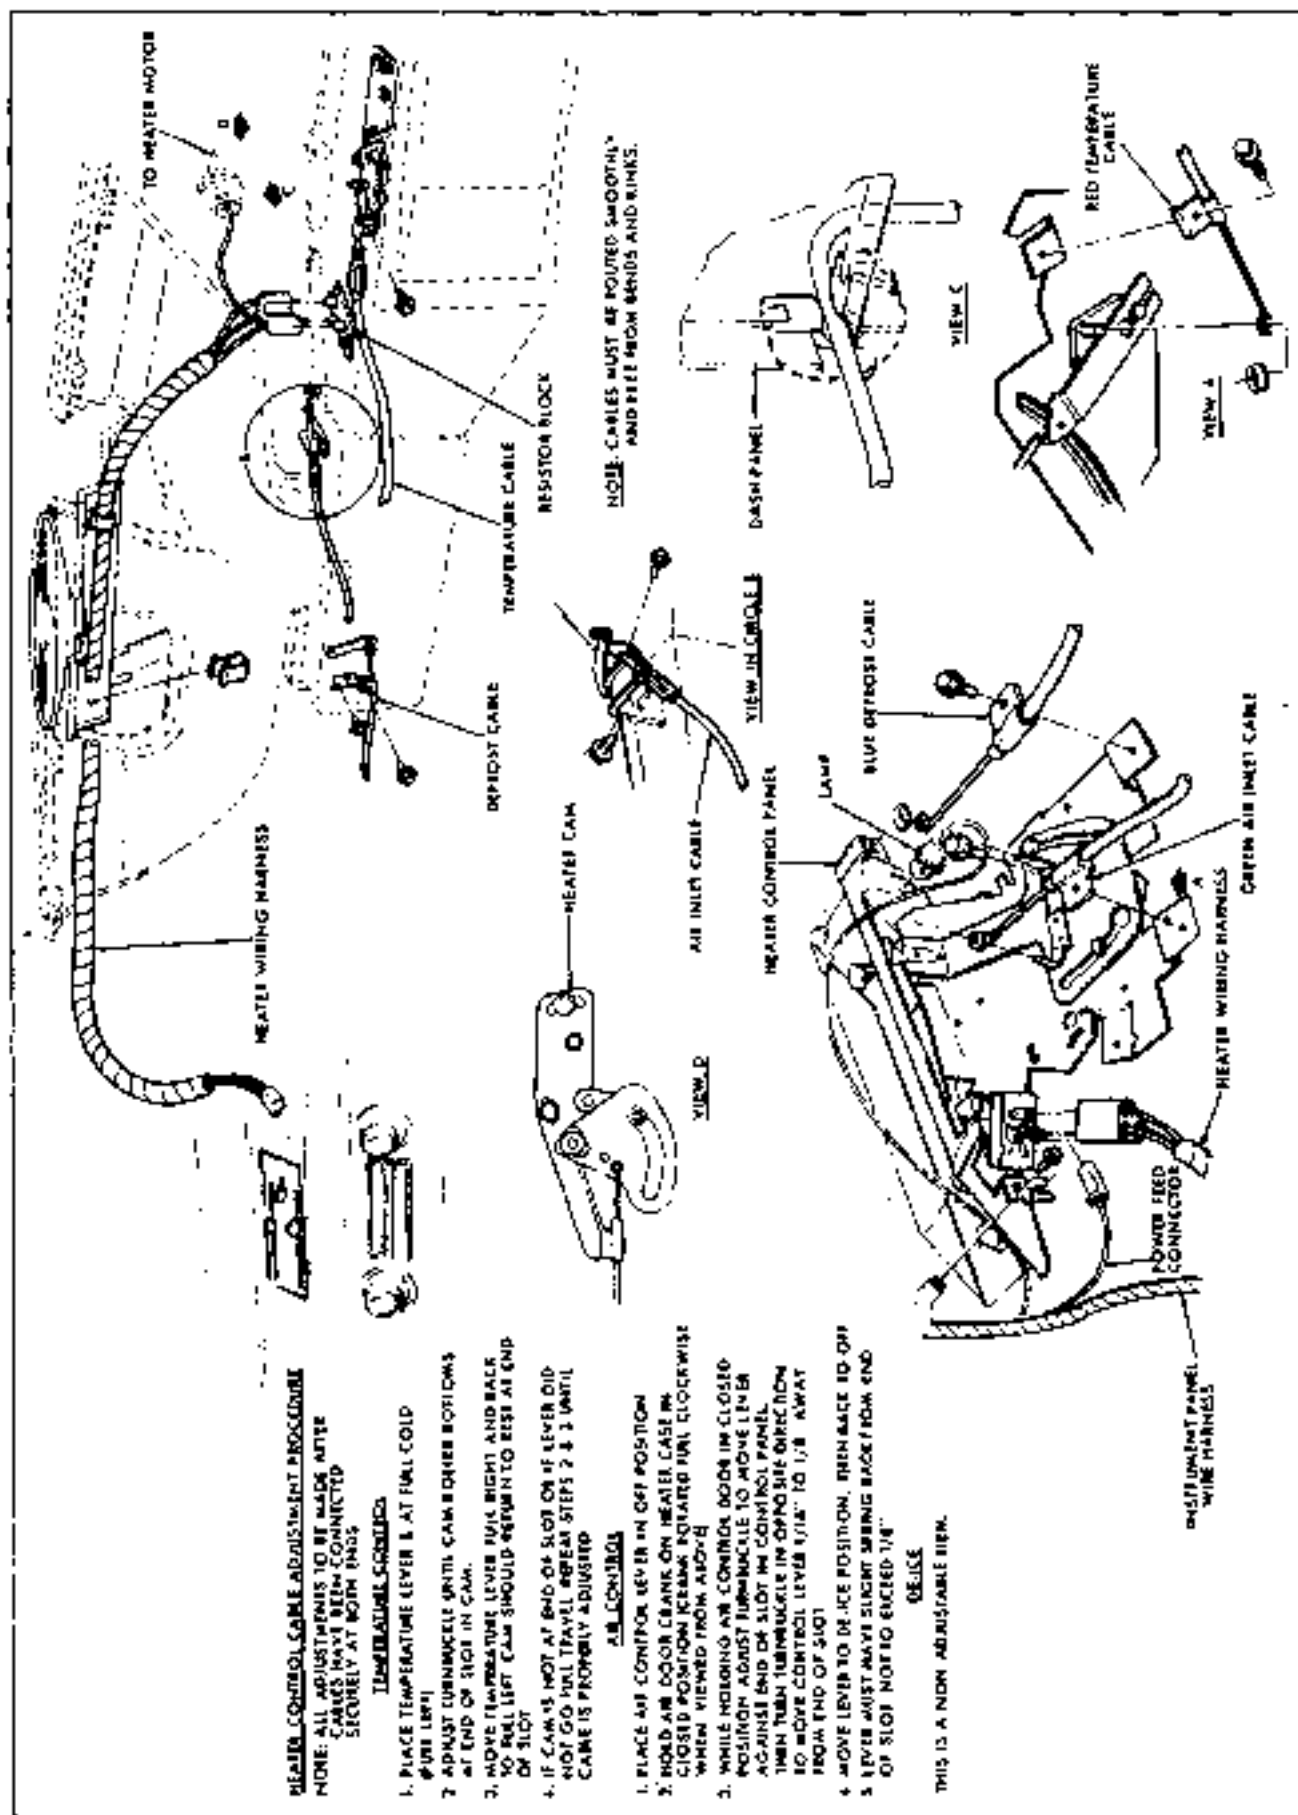
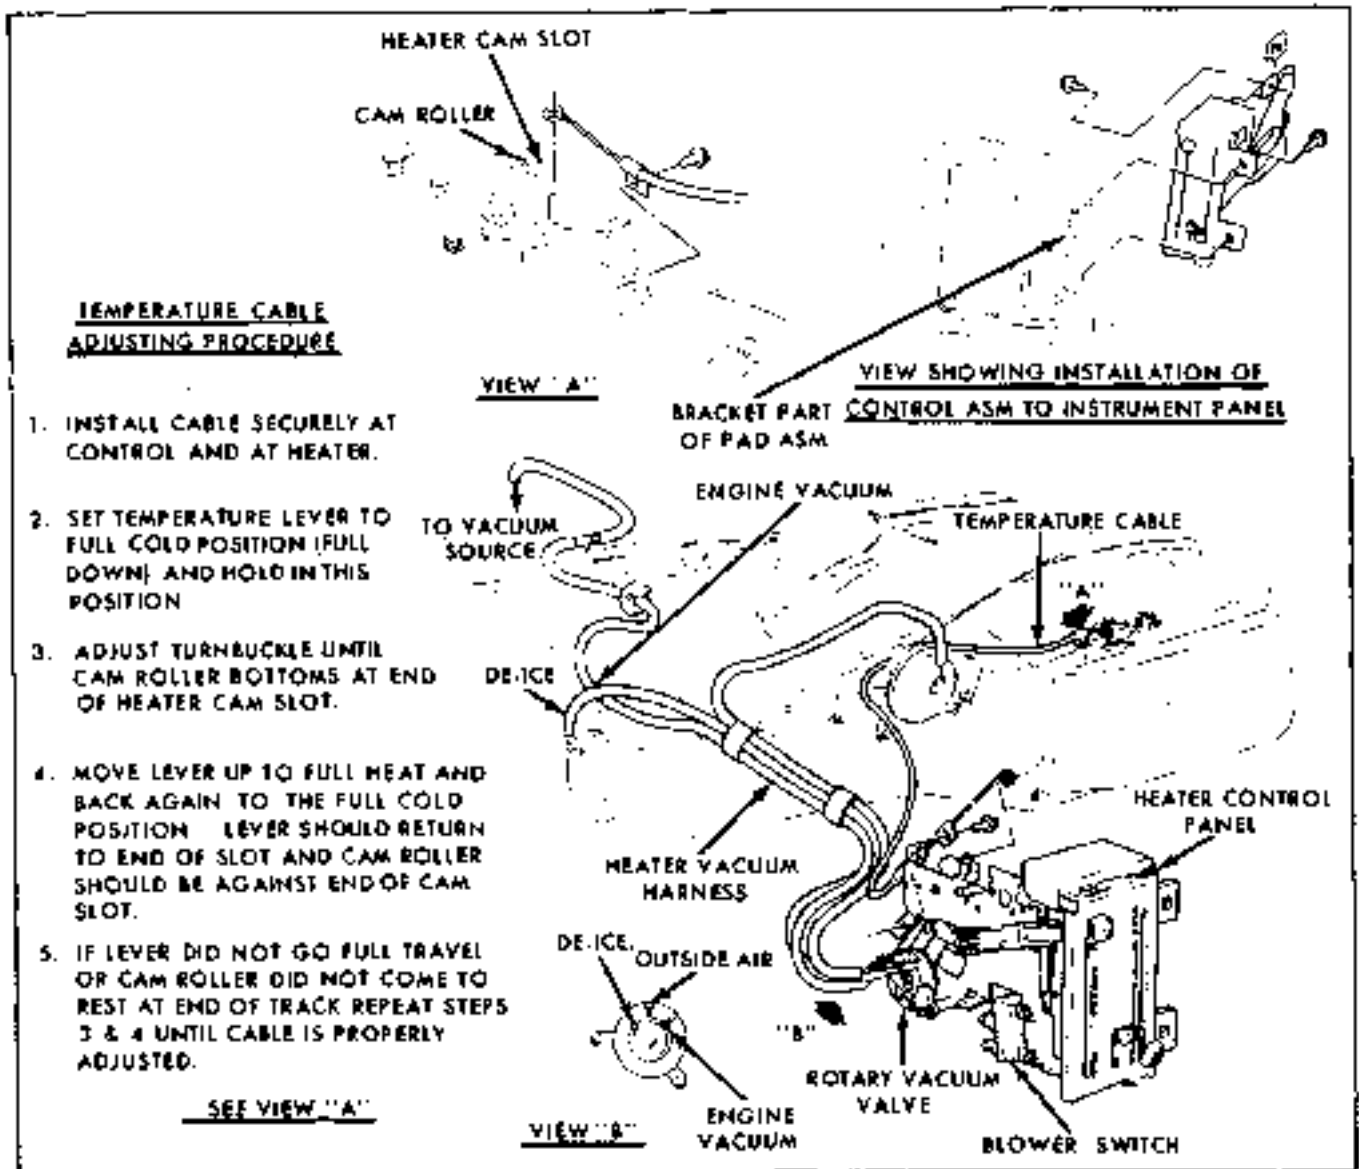
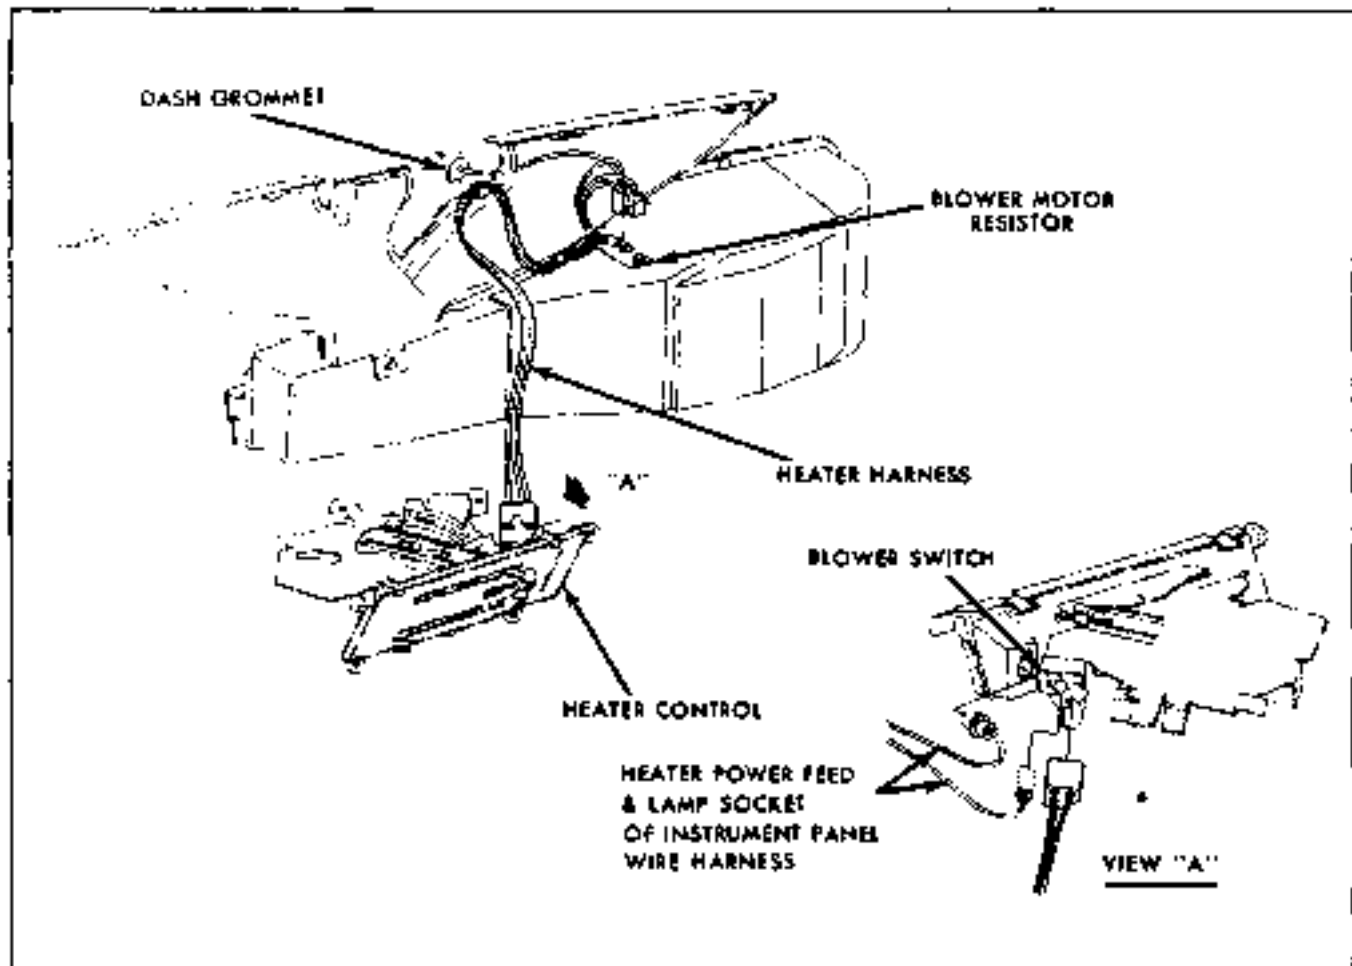

Fig 1-1 Pontiac-Heater Cable and Wire Routing
Fig 1-2 Grand Prix-Heater Cable and Vacuum Hose Routing
Fig. 1-5 Tempest, Firebird and Grand Prix-Typical Heater Harness
3. Adjust turnbuckle until cam roller bottoms at end of heater cam slot (Fig. 1-1 Pontiac or Fig. 1-2 Grand Prix).
1. Remove wire connector at blower motor, dash grommet, and feed through dash opening. For installation drawing, see Fig. 1-1 for Pontiac and Fig. 1-5 for typical Tempest, Firebird and Grand Prix. Make sure grommet is in place and resealed.
1. Remove vacuum supply hose from diaphragm (Fig. 1-2).